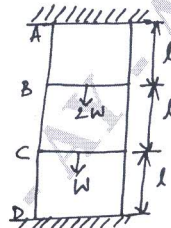

Fig.Q1(b)
- b. A vertical circular steel bar of length $3l$ fixed at both of its ends is loaded at intermediate sections by forces W and $2W$ as shown in Fig.Q1(b). Determine the end reactions if $W = 1.5\text{KN}$.